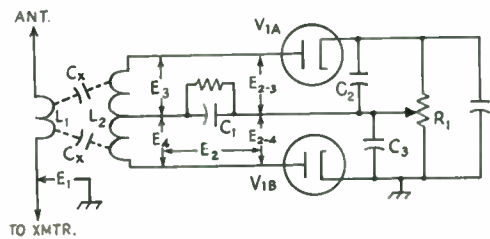

Fig. 1 — Phase-detector circuit used to produce control voltage for the automatic mobile-antenna resonator.
The phase detector used in this system is quite similar to the Foster-Seeley f.m. discriminator. Operation of the conventional discriminator results from the phase relationships existing in a transformer having a tuned primary and secondary, both capacitively and inductively coupled. The phase detector shown here in Fig. 1 operates from a low-Q impedance, both capacitively and inductively coupled to the r.f. antenna transmission line. This impedance, represented by  $L_2$  and its distributed circuit capacitances, provides sufficient impedance for satisfactory circuit operation and avoids the inconvenience of a tuned tank. As was previously stated, providing a proper match exists between the r.f. load and its trans-
Fig. 2 — Voltage vector relationships for conditions (A) — when the antenna is resonant, (B) — when the antenna is above resonance, and (C) — when the antenna is below resonance. Voltages refer to Fig. 1.